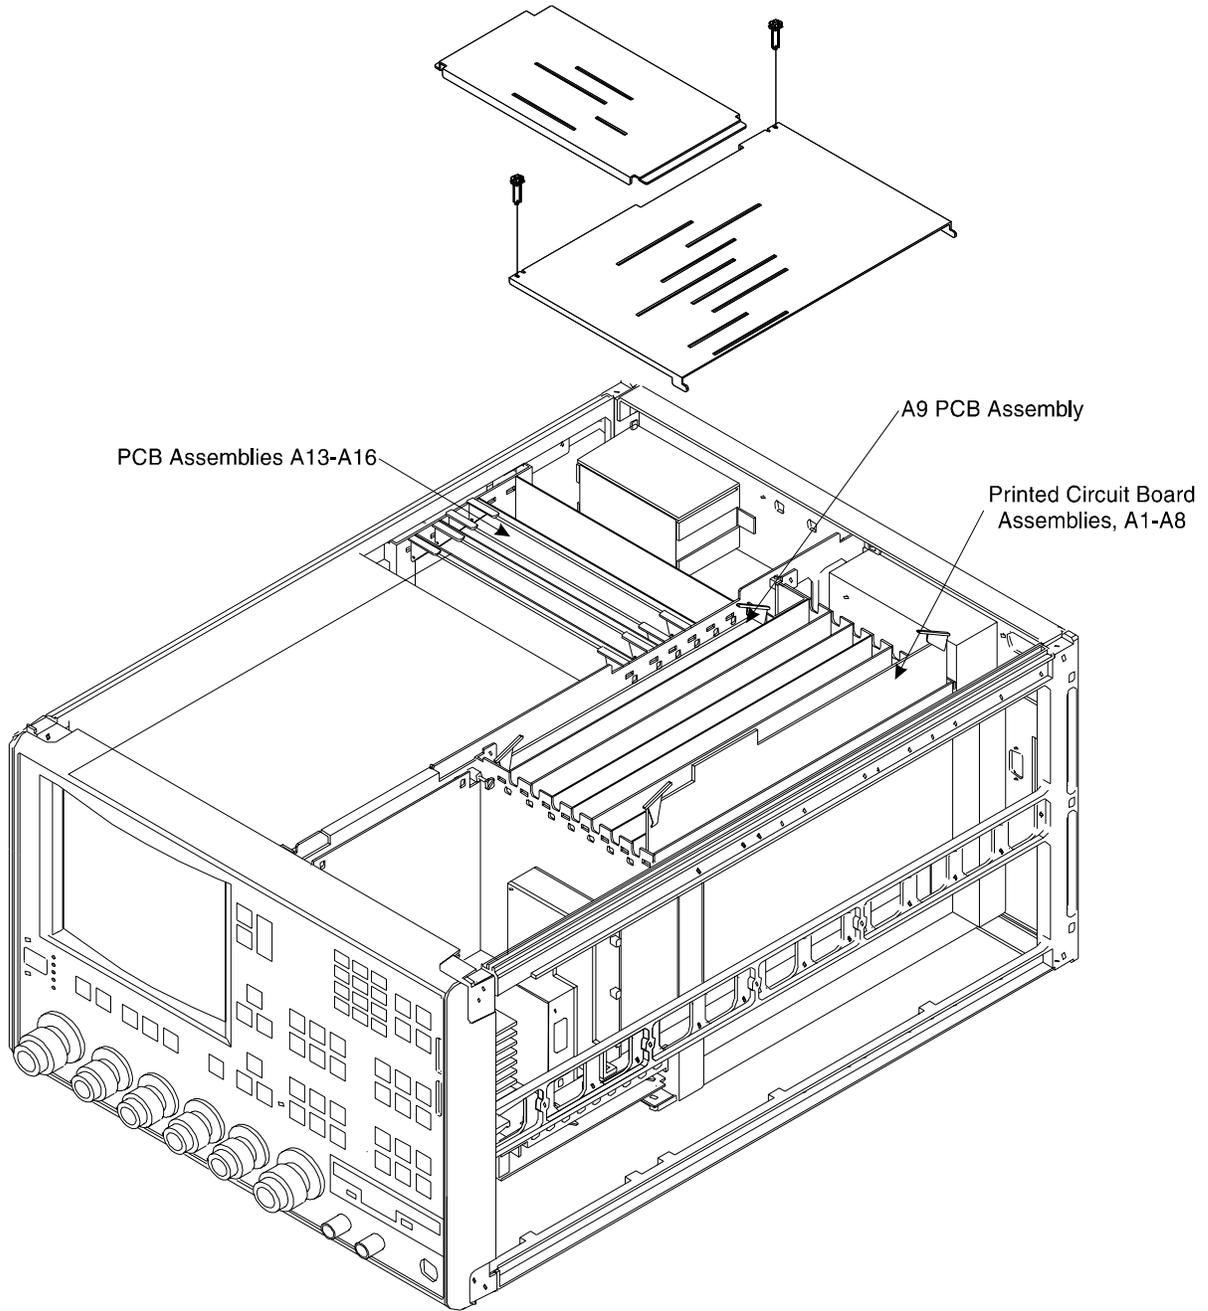

Figure 8-2. *A1-A9 and A13-A16 PCB Assemblies Removal Diagram*
- Step 2.** Remove the two screws that secure the large card-cage cover (Figure 8-2).